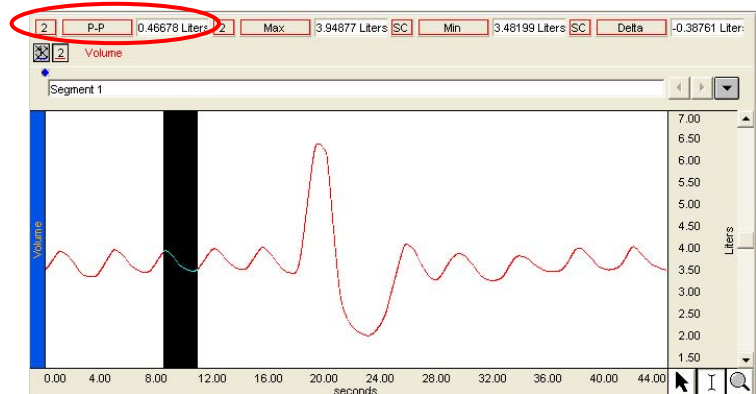

Fig. 12.17 Exhalation of third breath cycle selected to measure P-P
- b) Use the **I-beam** cursor to select the **exhalation** of cycle 3 and note the P-P result (Fig. 12.17). The selected area should be from the peak to the valley of the third cycle.
The **P-P** measurement in Fig. 12.17 represents the second value required for the averaged TV calculation.